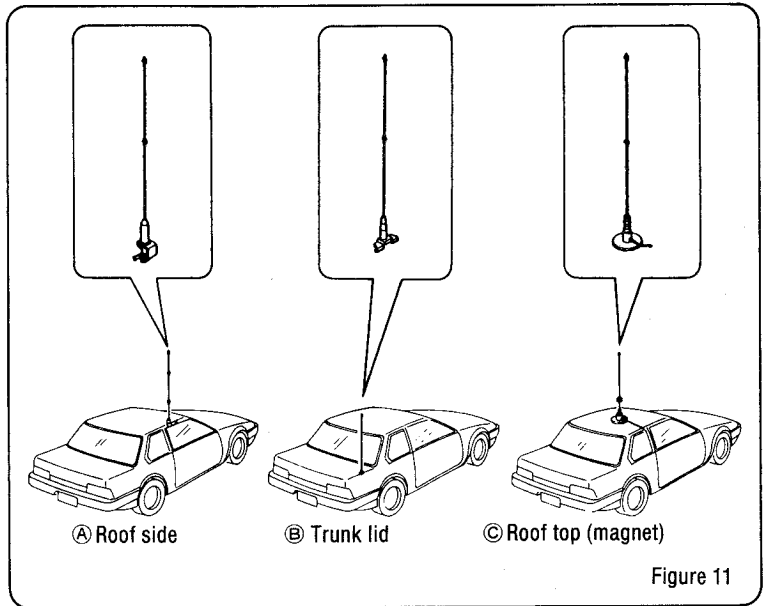
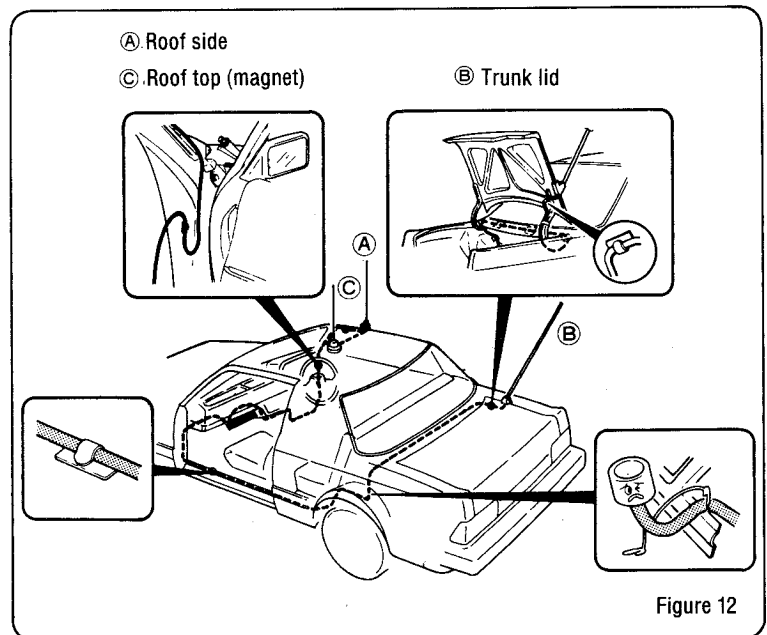

Figure 11
Figure 12
- ① Decide the installation portion. Select the antenna base according to the antenna and installation portion. For reference, antenna base varieties are shown in Figure 11.
- ② The antenna base set contains the coaxial cable. Be careful for treating the cable, since it is critical as the signal path.
- ③ Wire the cable as in Figure 12.